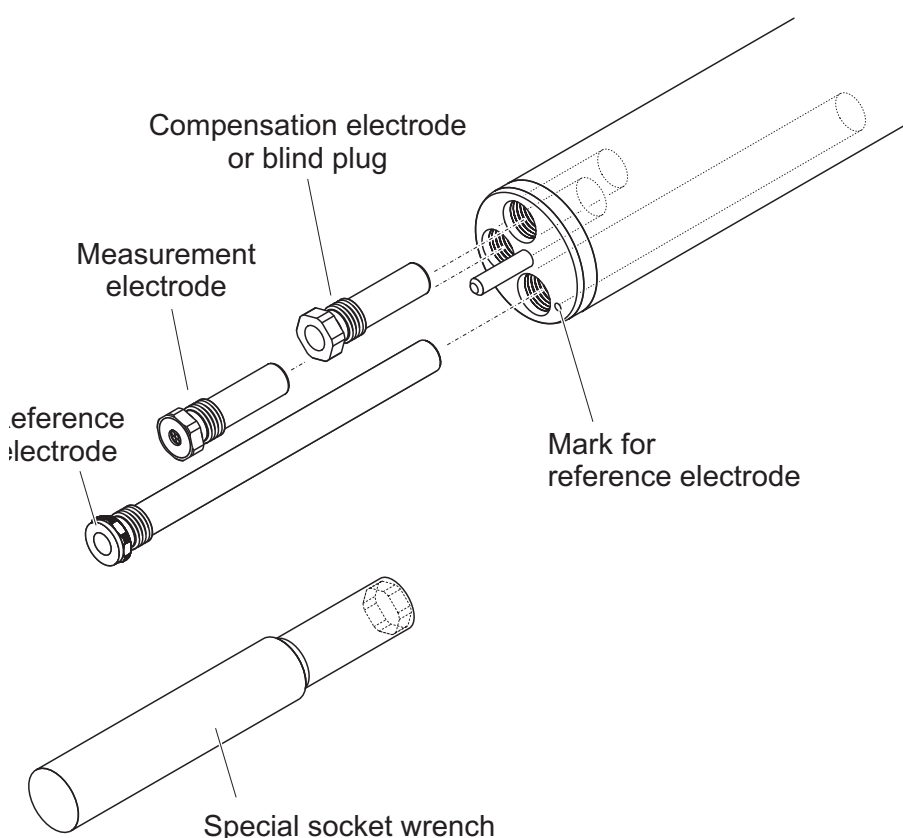

Fig. 3-3 Equipping the sensor with electrodes.
- The receptacle for the reference electrode is marked by a recess. It extends into the inside of the sensor clearly deeper than the other three receptacles (see Fig. 3-3).